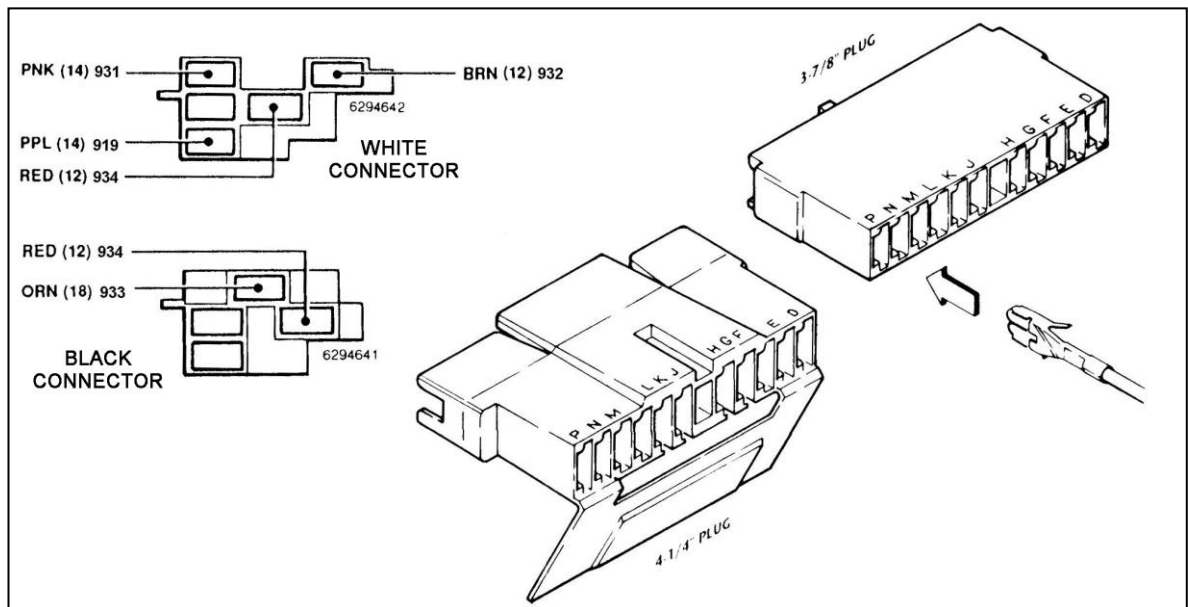

Figure 10-2 GM (column mounted) Turn Signal / Ignition Switch Connection
The TURN SIGNAL SECTION wires may have already been terminated for you. If not, cut wires to length and install the terminals provided. Choose the proper plug and install the terminals according to **Table 11-1**, as shown in **Figure 10-2**. The GM wire color codes have been included for reference. **Note:** The terminals will only insert into the connector ONE WAY, as shown in **Figure 10-2**. Make certain you are inserting the wire into the CORRECT LOCATION as the terminals are difficult if not impossible to remove once inserted.
12.0 Connecting an Ammeter and the MIDI Fuse. See Figure 10-2.